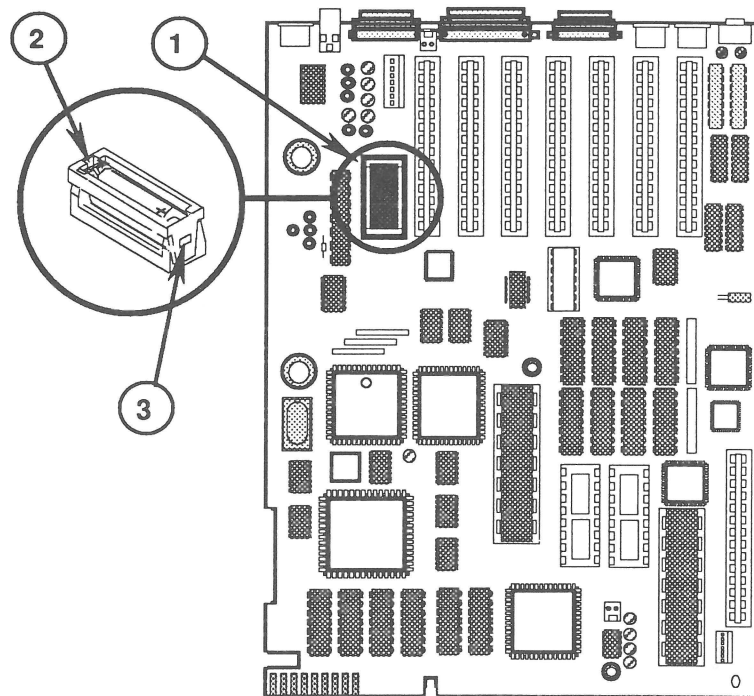

FIGURE 12
2. Locate the battery holder (Figure 12, #1). Remove the plastic cover by inserting a small, flat-blade screwdriver into the top (Figure 12, #2) of the holder, and gently pushing the screwdriver through the hole (Figure 12, #3) on the side of the battery holder. The battery holder cover will lift off.